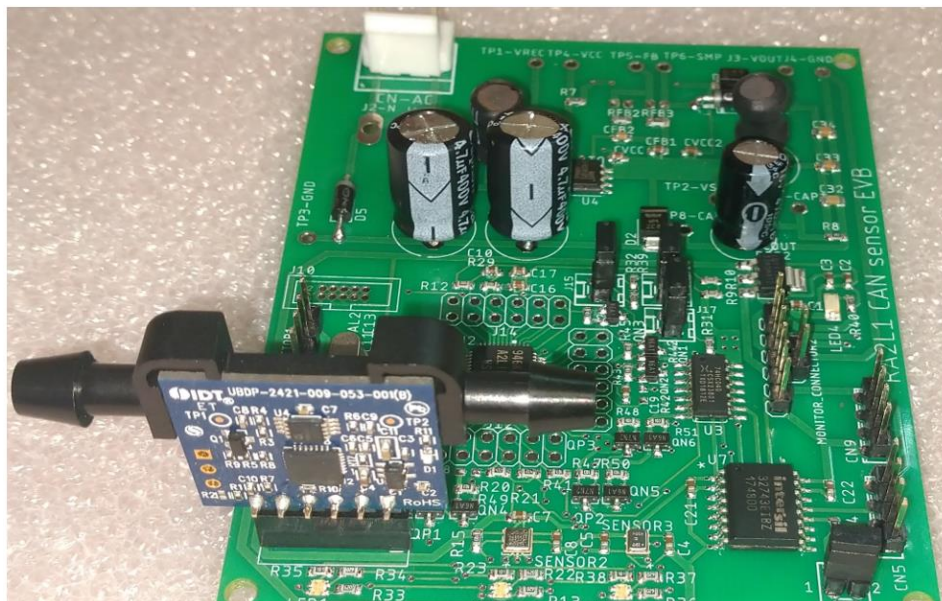

Figure 2-2 RA2L1 CAN Sensor EVB and Flow Sensor Diagram
2.2 Figure 2-2 is the diagram of RA2L1 CAN Sensor EVB and Flow Sensor. Please pay attention to the direction of the Flow Sensor.